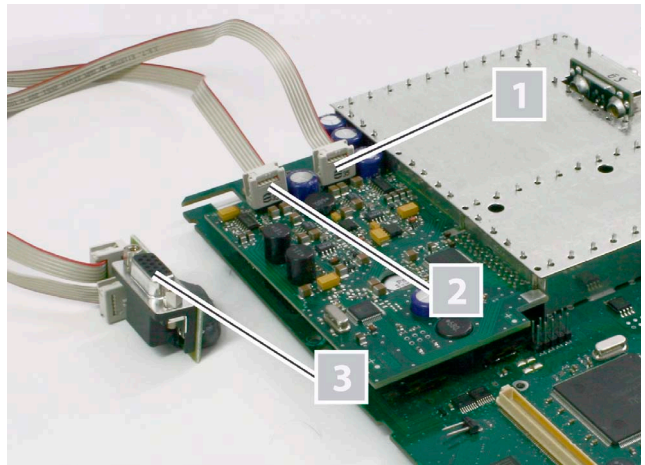

Figure 2: Cable connections
1. Plug each ribbon-cable connector onto the respective input of the plug-in card (see Figure 2, above).